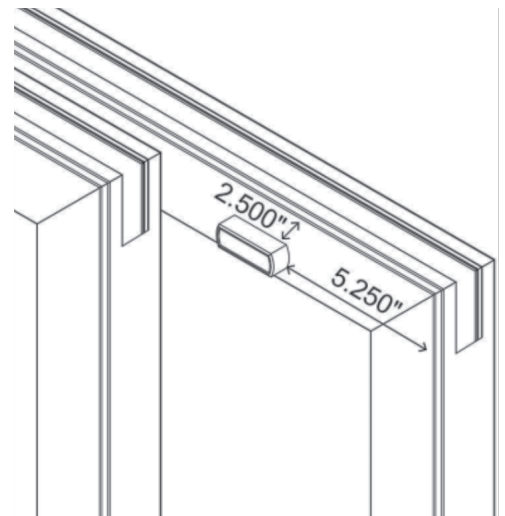

Figure 28
43. Pre-drill two 11/64" (0.171") pilot holes on the inside of each operable panel 5-1/4" in from the right side of the panel and 2-1/2" down from the top of the panel to the edges of the come-along base (Figure 28). Attach the panel come-along (Item 35) using two screws (Item 44). Snap the panel come-along cover over the come-along base.
WARNING: Do not install panel come-alongs in any other area than shown in Figure 28; doing so could cause damage to the frame or glass. Using longer screws can cause interference or operational problems.